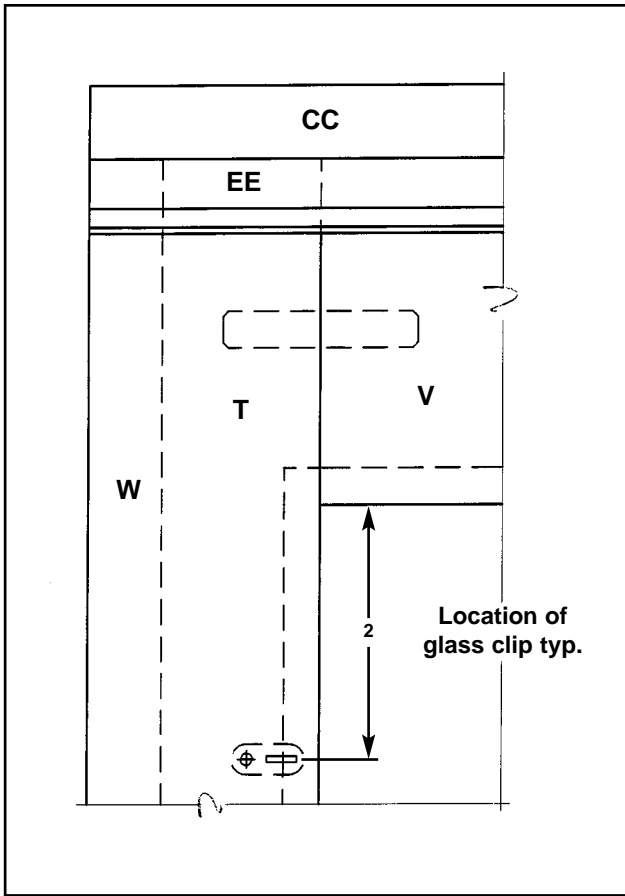

Figure 1
1. Assemble side panel frames (A, B, C, D) and (T, U, V), face frames (H, I, J) and (X, Y) and door frames (M, N) and (Z, AA). Refer to Isometric and Elevations and Figures 1 through 8. Use 3/8" dowels and glue on all joints.
2. Route a 3/8" rabbet inside all side panel and door frames. Note that the corners of the rabbet are cut square in the upper cabinet for the glass panels (see Figures 1 and 3).
10. Nail and glue upper cabinet side frames (T, U, V) to subassembly (S, W). Refer to Isometric and Figures 1 and 3.
17. Attach glass clips, hinges and door latches. Refer to Figures 1, 5 and 6. Install glass in upper cabinet.